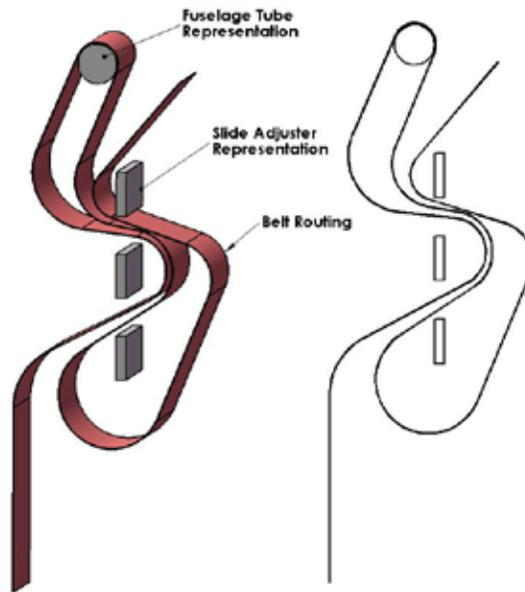

Figure 7 – Rear Seat Upper Strap Routing
- (c) Ensure the straps in front of the seat are cinched tight enough to hold cross bar in slots at either end. Ensure the top straps are secure and verify proper routing of straps around fuselage tube and through slide adjuster (see Figure 7).